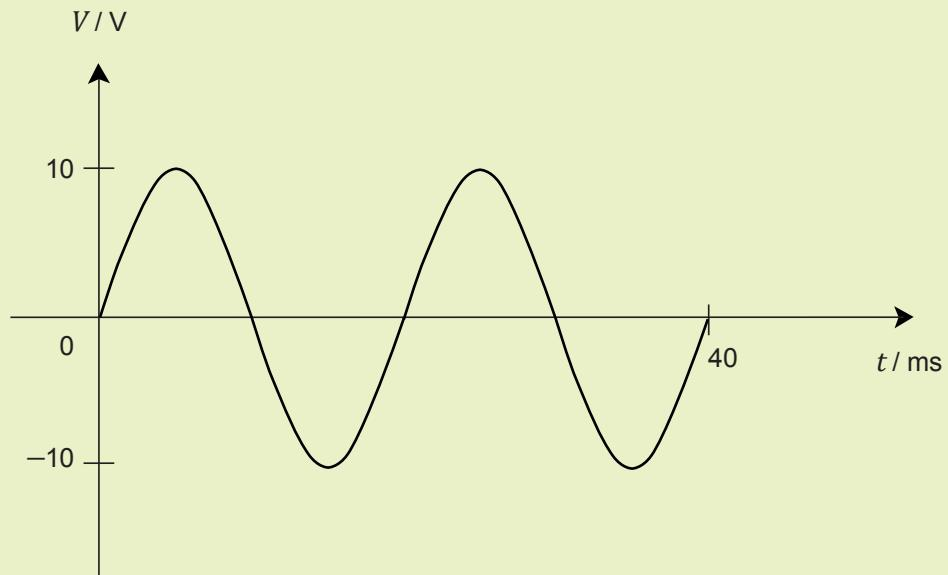

Figure 5.21
2. Figure 5.21 shows a sinusoidal AC waveform.